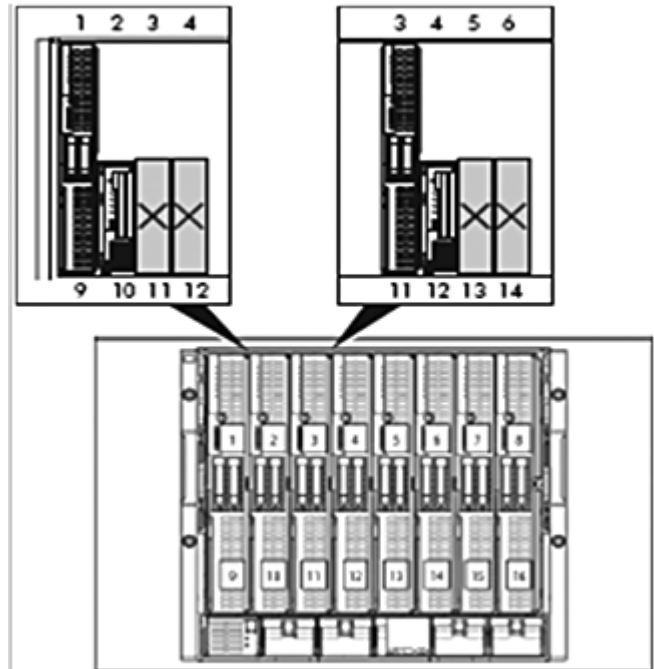

Figure 2 Installing a single expansion blade adjacent to a full-height server blade.
1. One full-height partner server blade supports one or two expansion blades. Figure 2 shows installation of one expansion blade.